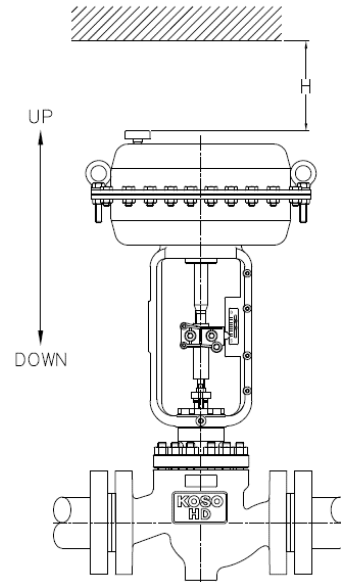

Fig. 3
- As a rule, the position of the installed control valve should be vertical as illustrated in Fig. 3.